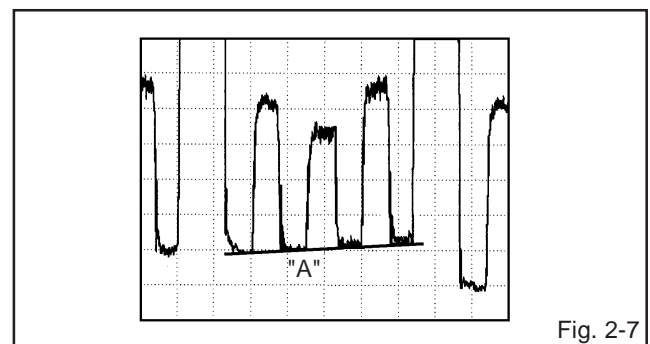

Fig. 2-7
6. Press the VOL. UP/DOWN button on the remote control until the section "A" becomes a straight line. (**Refer to Fig. 2-7**)